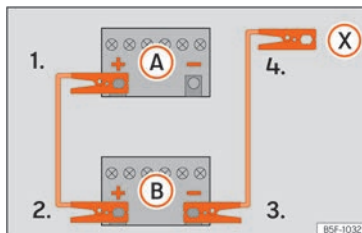

Fig. 54 Diagram of connections for vehicles without Start Stop system
2. Connect one end of the red jump lead to the positive (+) terminal of the vehicle with the flat battery (A) » » » Fig. 54.
3. Connect the other end of the red jump lead to the positive terminal (+) in the vehicle providing assistance (B).
- 4a. *In vehicles without a Start-Stop system:* connect one end of the black jump lead to the negative terminal (-) of the vehicle providing the current (B) » » » Fig. 54.